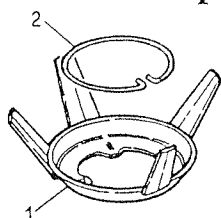

Fig.15
8.1 AGITATORE LUNGO PER CONCIMI IN POLVERE E UMIDI (fig.15)
8.1 LONG-FINGERED AGITATOR FOR DAMP AND POWDERED FERTILIZERS (fig.15)